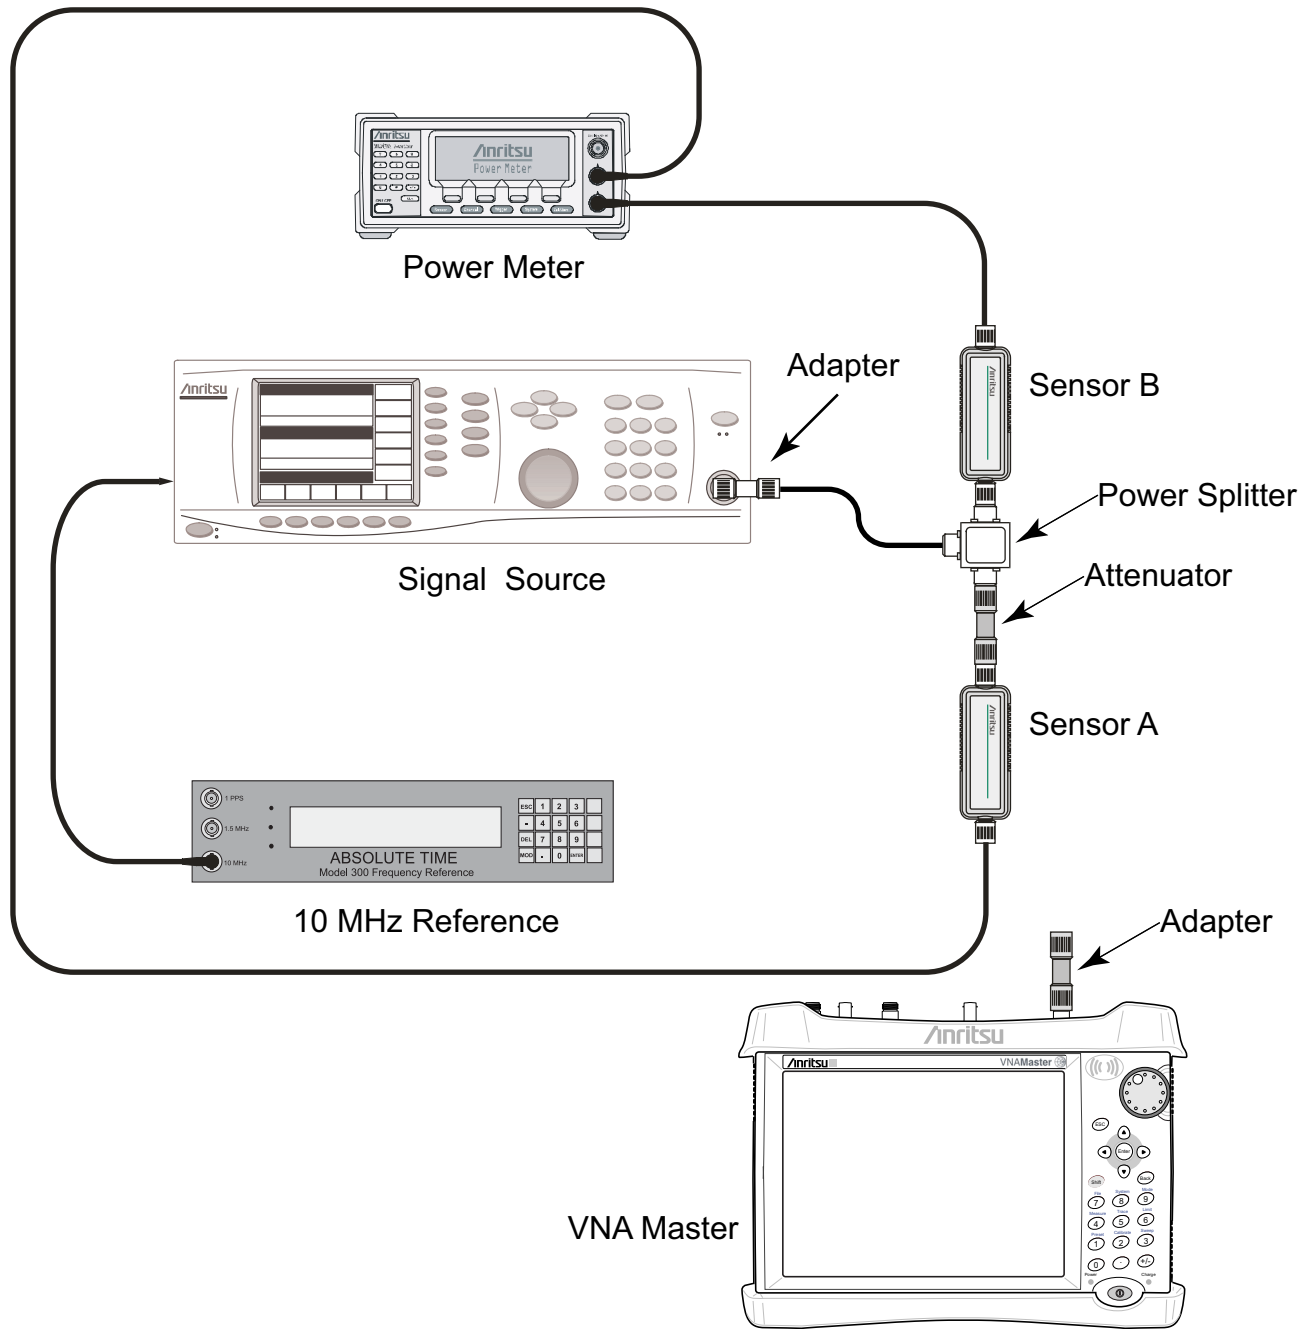

Figure 3-6. Fixed Amplitude Level with Varying Frequency Setup
5. Install the 10 dB Fixed Attenuator to the other Power Splitter output and then connect Sensor A to the end of the attenuator as shown in Figure 3-6.